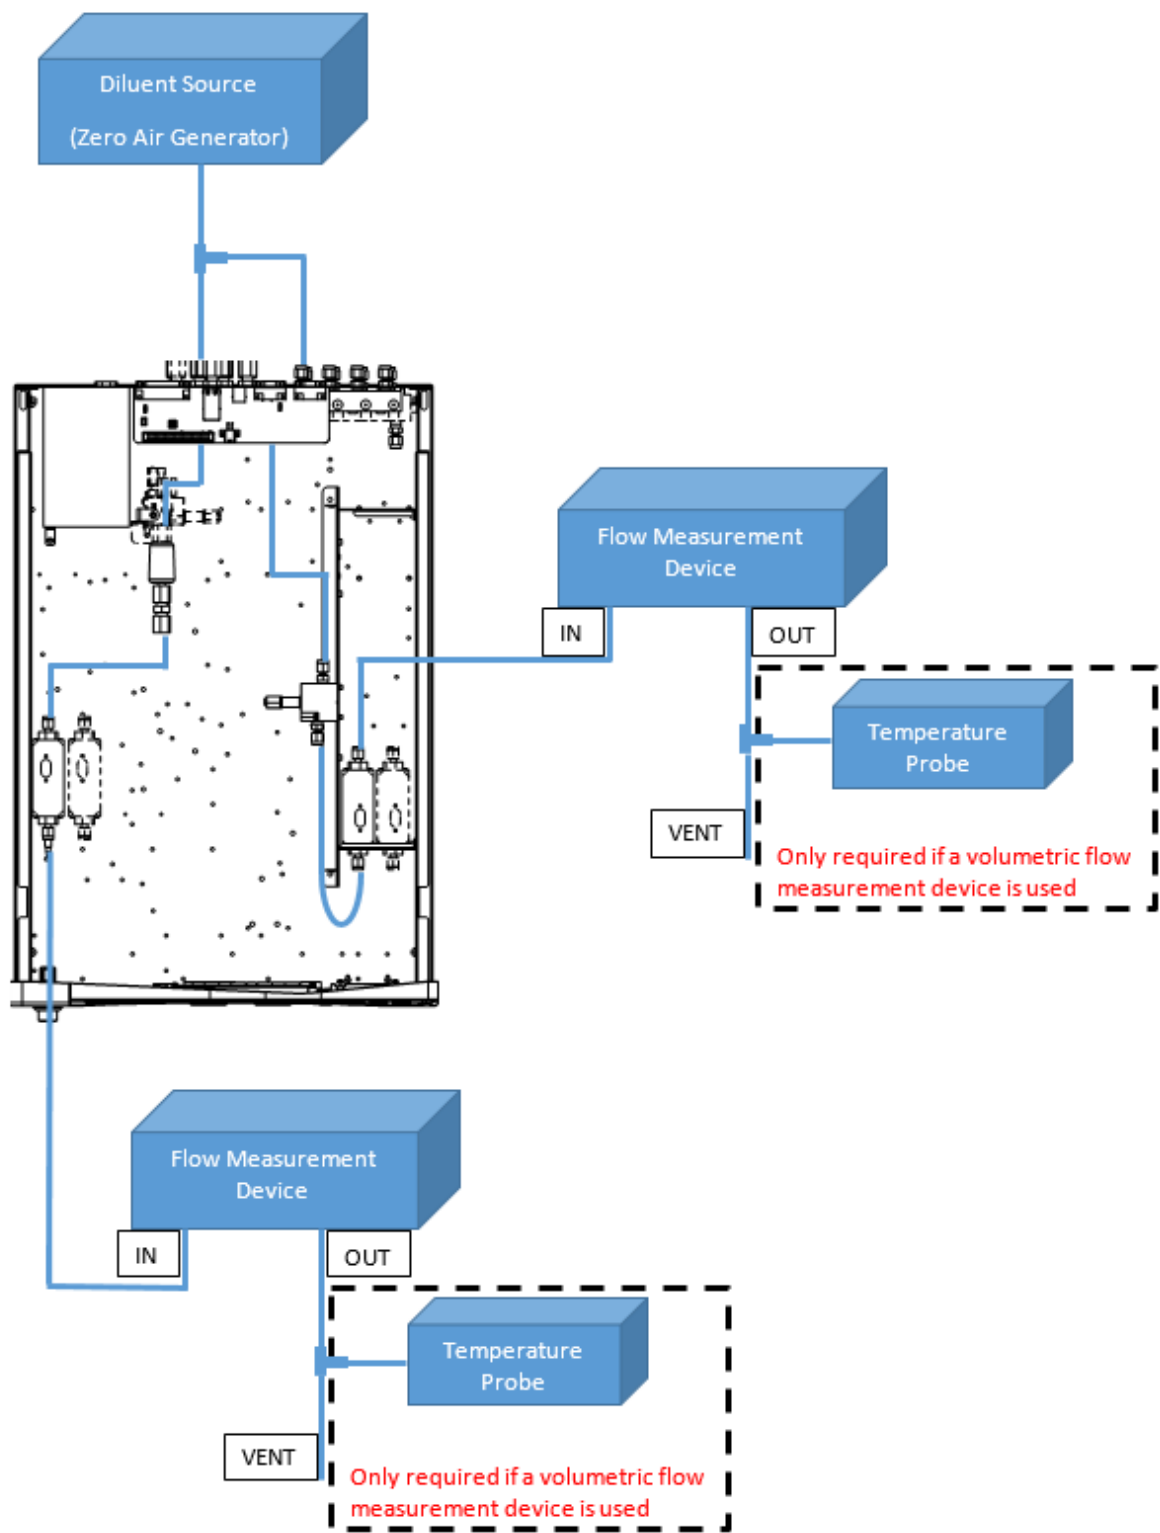

Figure 75 – MFC Calibration Setup
2. Connect diluent air to the **diluent port** as well as a spare **source port** (via a T-piece as shown in Figure 75).
9. Connect the flow measurement device directly to the output port of the MFC (refer to Figure 75).